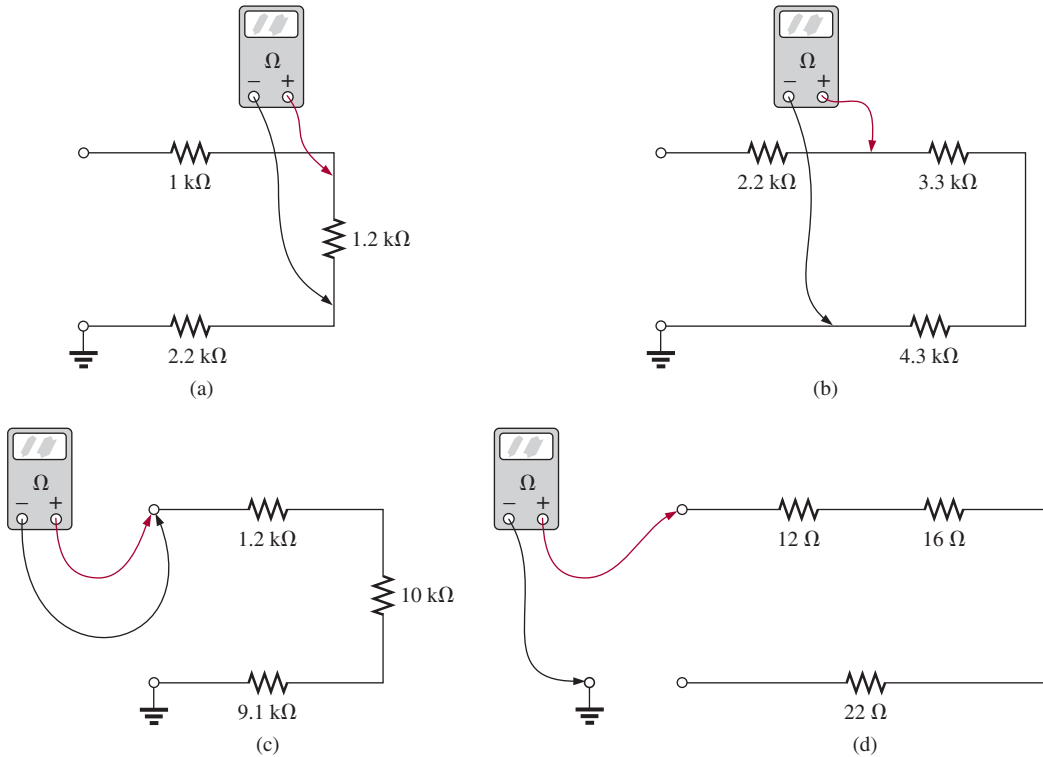

FIG. 5.90
6. What is the ohmmeter reading for each configuration in Fig. 5.90?